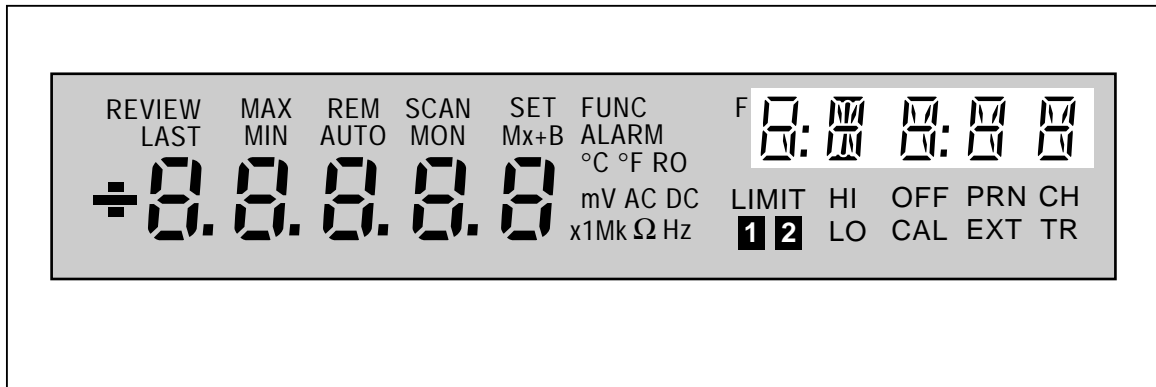

Figure 2-4. Right Display
- An auxiliary alphanumeric chapter (called the Right Display). See Figure 2-4.